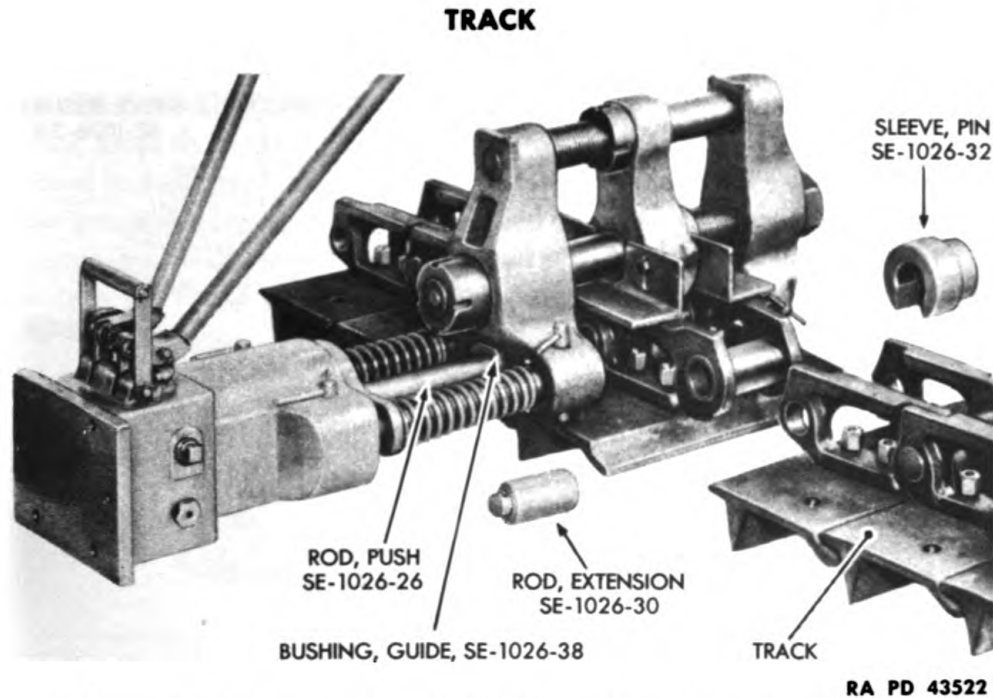

Figure 163 – Pushing Pin All the Way Out (Shoes Assembled)
(7) PUSH TRACK PIN ALL THE WAY OUT (WITH SHOES ASSEMBLED TO LINKS) (fig. 163).